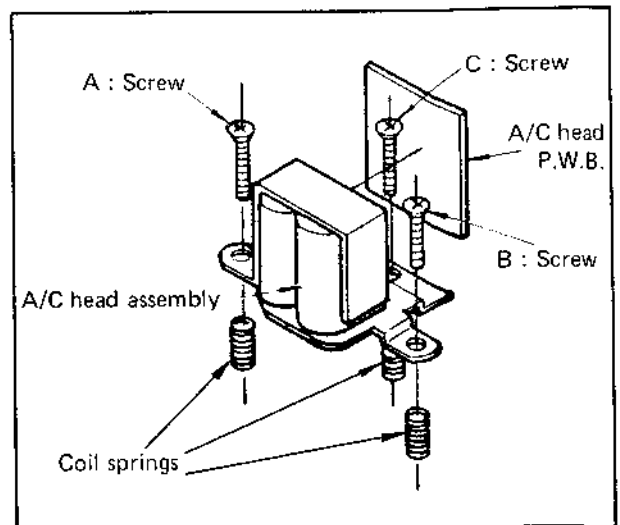

Fig. 4-36
1. Refer to Fig. 4-36. Take out screws A, B and C, then remove the A/C head subassembly. Use care regarding the coil springs.